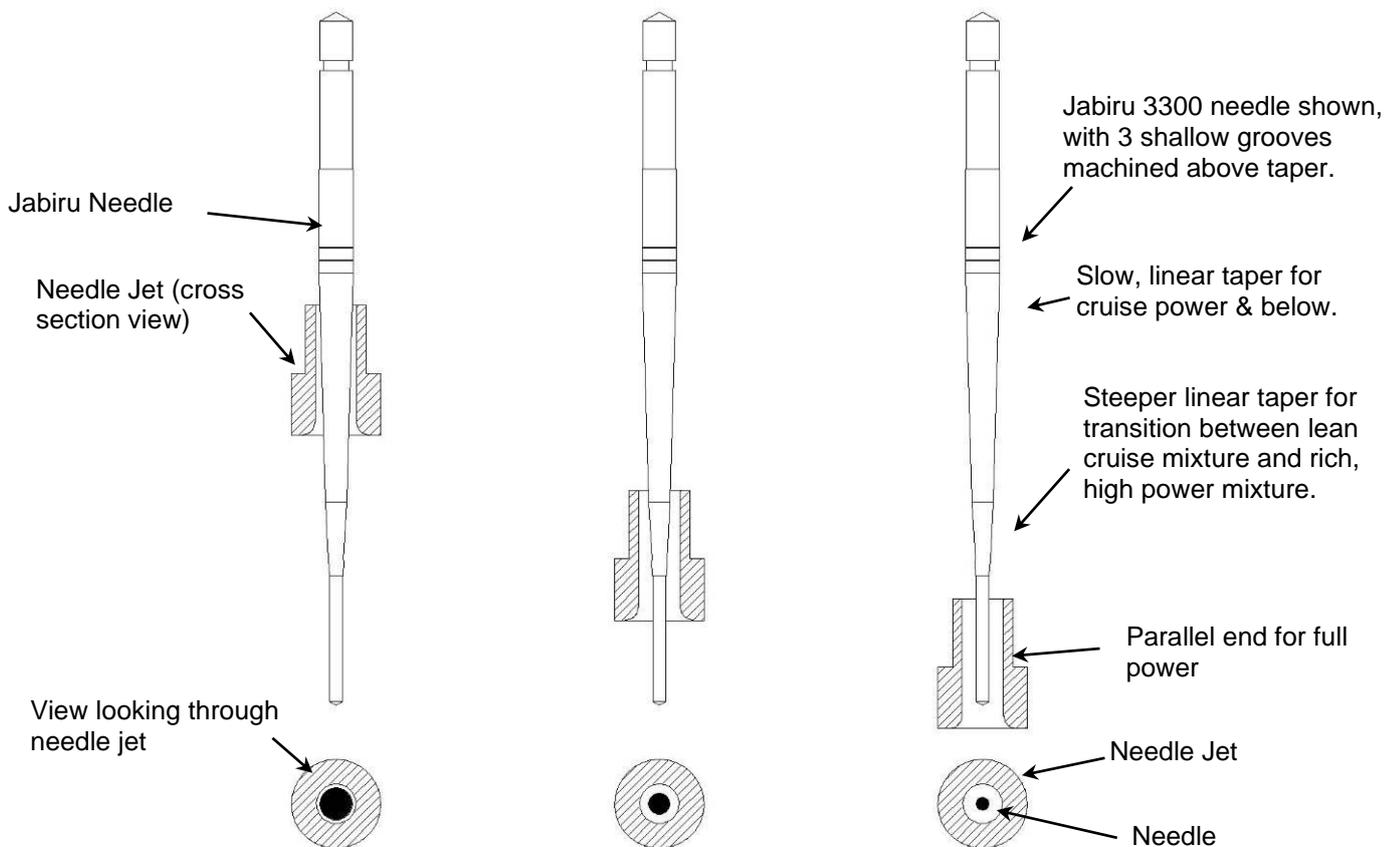

Figure 35. Needle Jet (Jabiru Needle)
- The main and idle jets have simple fixed apertures, while the effective size of the needle jet aperture varies, depending on the diameter of the needle. Figure 35 below shows three different throttle settings in the needle jet and the corresponding difference in aperture. On the left is a low power setting, where the needle jet is nearly completely blocked by the needle. The middle throttle setting corresponds approximately to a high cruise power setting. The gap between the needle and the sides of the jet is much larger. The final setting corresponds approximately to wide open throttle. The needle jet is now effectively not there, and the amount of fuel flowing is controlled by the main jet (located upstream of the needle jet in this circuit).